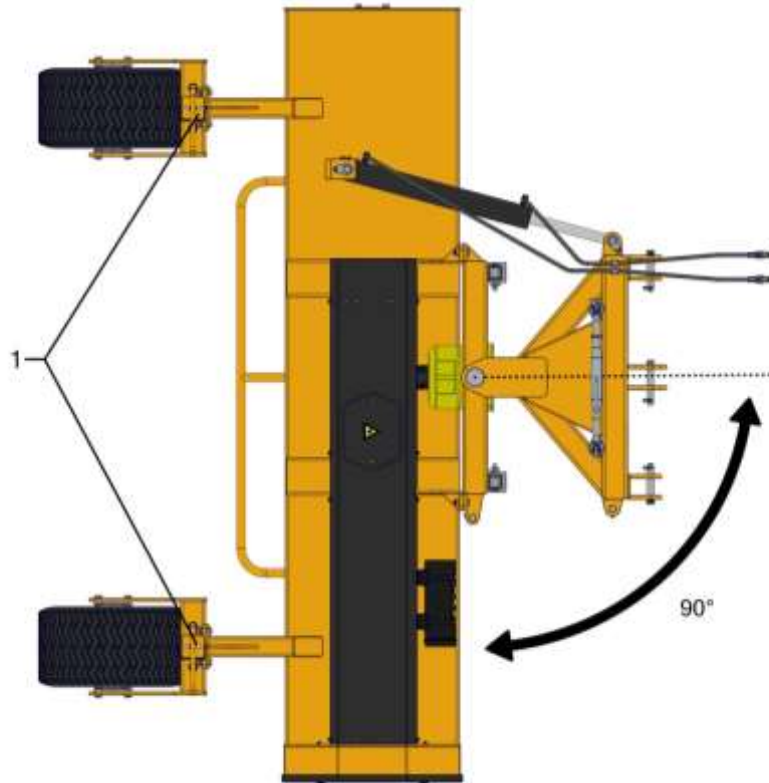

Figure 6
1. Make sure that the rotor frame is perpendicular to the tractor (see **Figure 6**). If not, the rotor frame can be rotated by means of the hydraulic control on the tractor.
6. To adjust the working depth, the wheels can be adjusted by turning the spindles (1) clockwise or counter-clockwise. The settings can be seen on the indicators on the spindles.